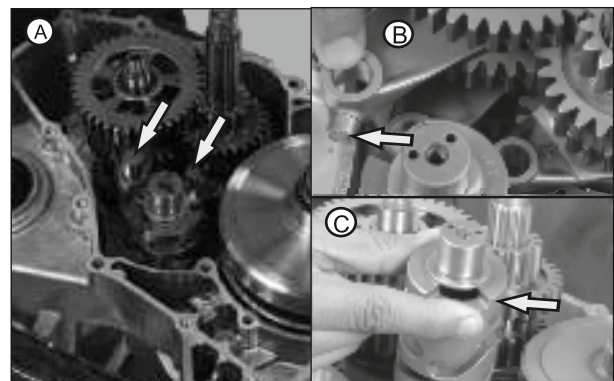

Fig. 3.82
- Take out Pin shift fork high speed (A). (Fig. 3.82)
- Take out Pin fork shift low speed (A). (Fig. 3.82)
- Dis-locate the forks from groove cam gearshift (B). (Fig. 3.82)
- Pull out the cam gearshift from Crank case LH (C). (Fig. 3.82)